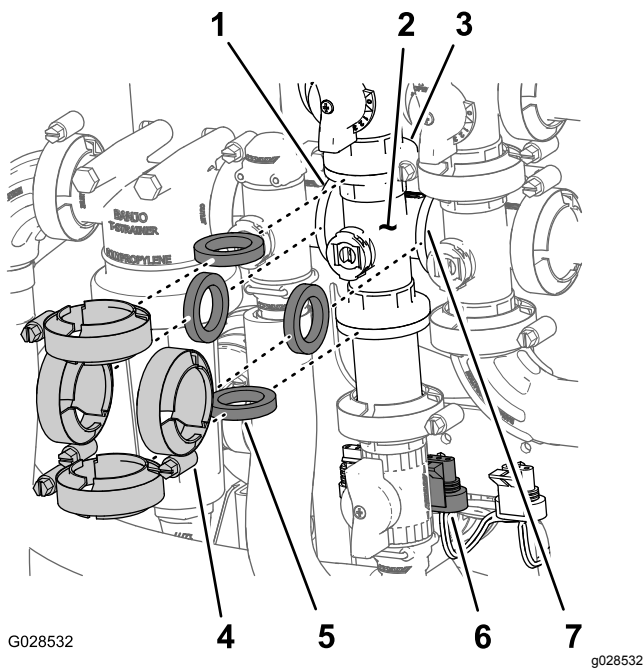

Figure 50
1. Remove clamps and gaskets that secure the manifold for the agitation valve (Figure 50) to the agitation bypass valve, rate control valve, master boom valve, and adapter fitting (agitation throttle valve).